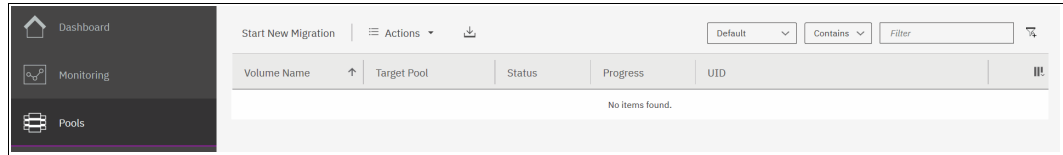

Figure 8-2 Starting a migration
2. Click **Start New Migration** to begin the storage migration wizard, as shown in Figure 8-2.
Note: Starting a new migration adds the volume to be migrated to the list that is shown in Figure 8-2. After a volume is migrated, it remains in the list until you finalize the migration.